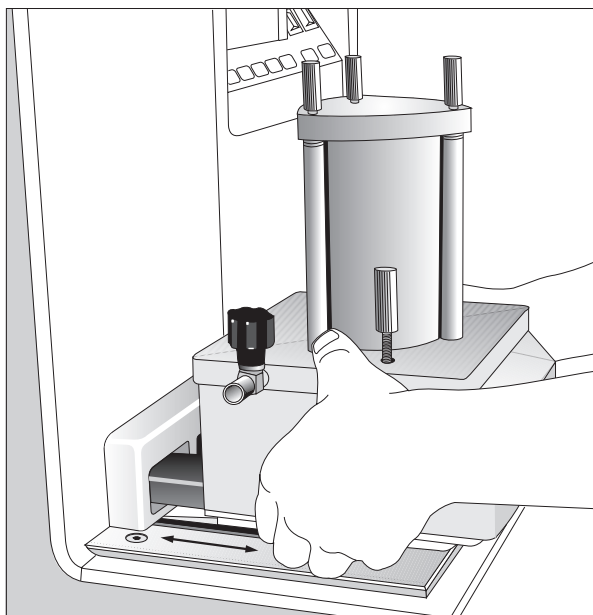

Figure PDSC.2
To install the Pressure DSC (PDSC) Cell on the DSC 2920 CE, follow these instructions and refer to Figures PDSC.2, PDSC.3, and PDSC.4.
1. Hold the PDSC as shown in Figure PDSC.2, and slide it onto the baseplate following the alignment guides. The back of the cell should touch the connector housing on the DSC 2920 CE.